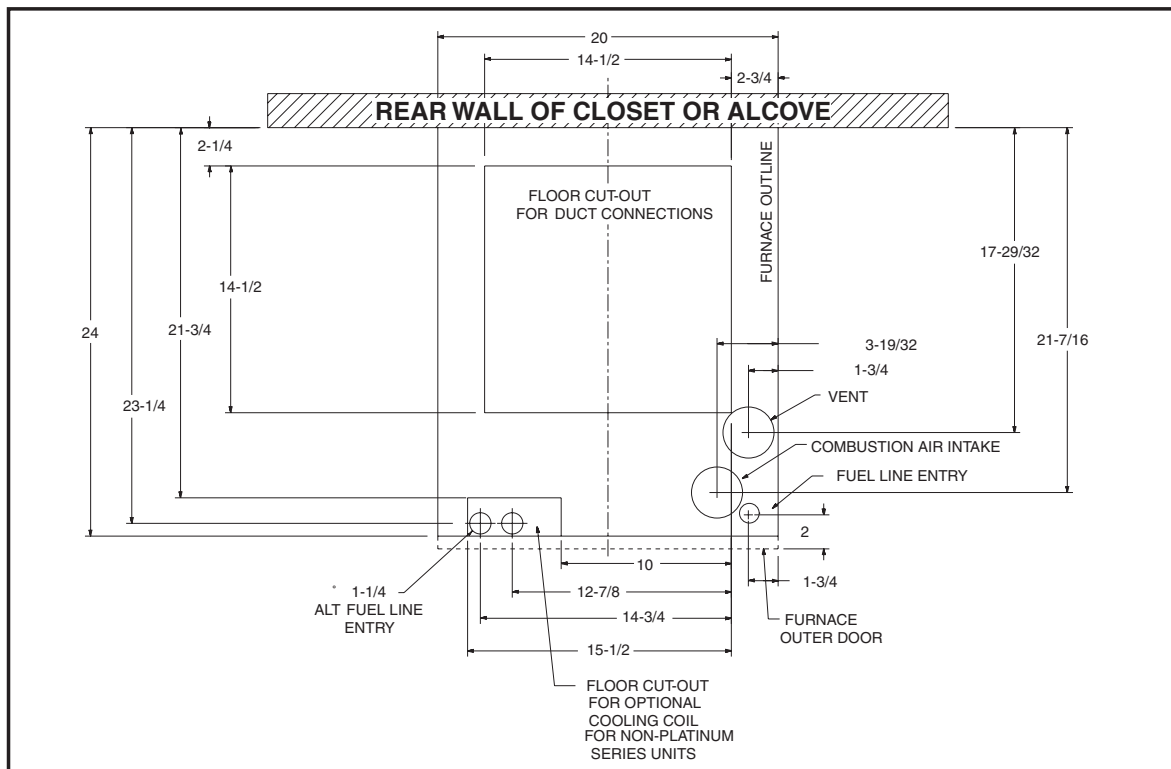

Figure 7. Cut-Out Locations
- Determine center of closet or alcove (Figures 7 & 8).